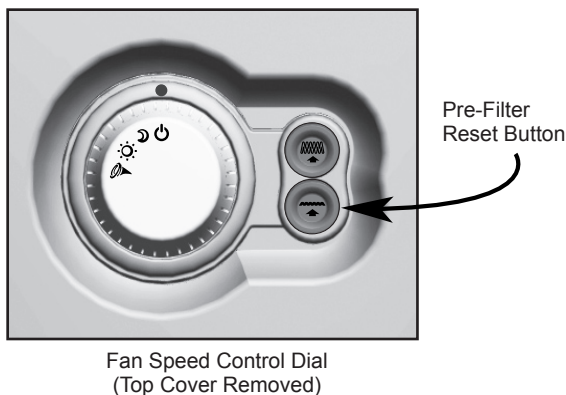

Fig. 6 - Resetting the Pre-Filter Counter
2. Reset the Pre-Filter Life Counter by pressing the Pre-Filter Reset Button. for 5 seconds. See Figure 6.